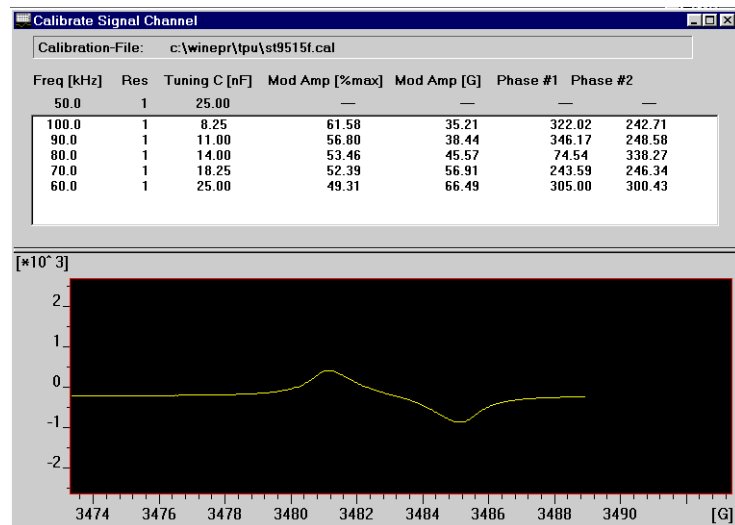

Figure 17-26 The Calibration routine
7. **Start the calibration routine.** Click the **Start** button. A new dialog box will appear. (See Figure 17-26.) The spectrometer will then automatically calibrate the signal channel at each of the specified modulation frequencies.
8. **Check Mod. Amp [G] at 100 kHz.** The calibration routine performs its task sequentially, starting with the highest modulation frequency and continuing for each selected modulation frequency. As each parameter is determined, it is displayed in the table. (See Figure 17-26.) Wait until the 100 kHz calibration is completed and note the value in the fifth column of the table, Mod Amp [G]. This value can allow excessive current to flow through the modulation coils of the cavity at the maximum modulation amplitude, resulting in damaged modulation coils. Compare the Mod Amp [G] at 100 kHz with the values listed for your cavity in Table 17-2. If the value obtained by the calibration routine exceeds the values listed in Table 17-2, first record the values for Mod Amp [G] and Mod Amp [%max] because you will need them for the next step. Then stop the calibration routine by clicking the **STOP** button in the **Tool Bar** twice. If the value is less than or equal to the value listed in Table 17-2, allow the calibration routine to continue its task and proceed to Step 11.